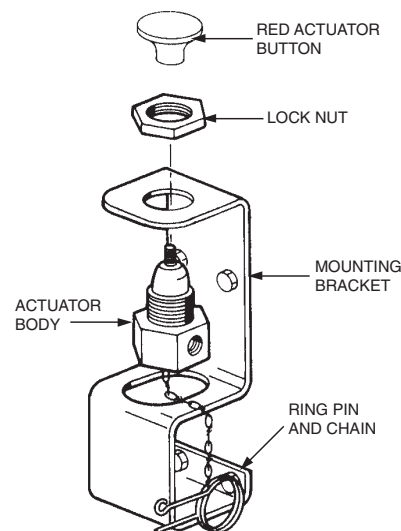

FIGURE 7
2. Unscrew the RED actuator button from the actuator stem, remove locknut, and slide actuator body through mounting hole on bracket. See Figure 7.
3. Rotate actuator body for desired location of actuation hose outlet connection. Screw locknut firmly onto actuator body and insert ring pin. Apply a non-permanent thread adhesive, such as Locktite 242 or equal, to the RED actuator button threads and then screw button onto the stem. See Figure 7.